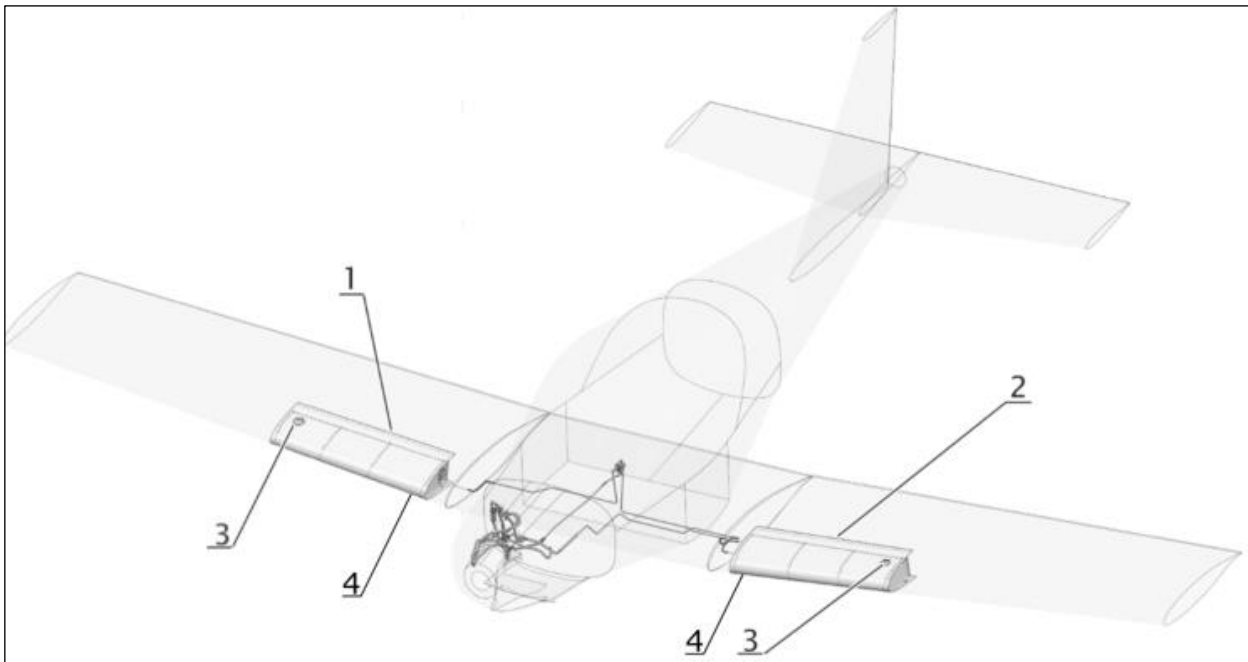
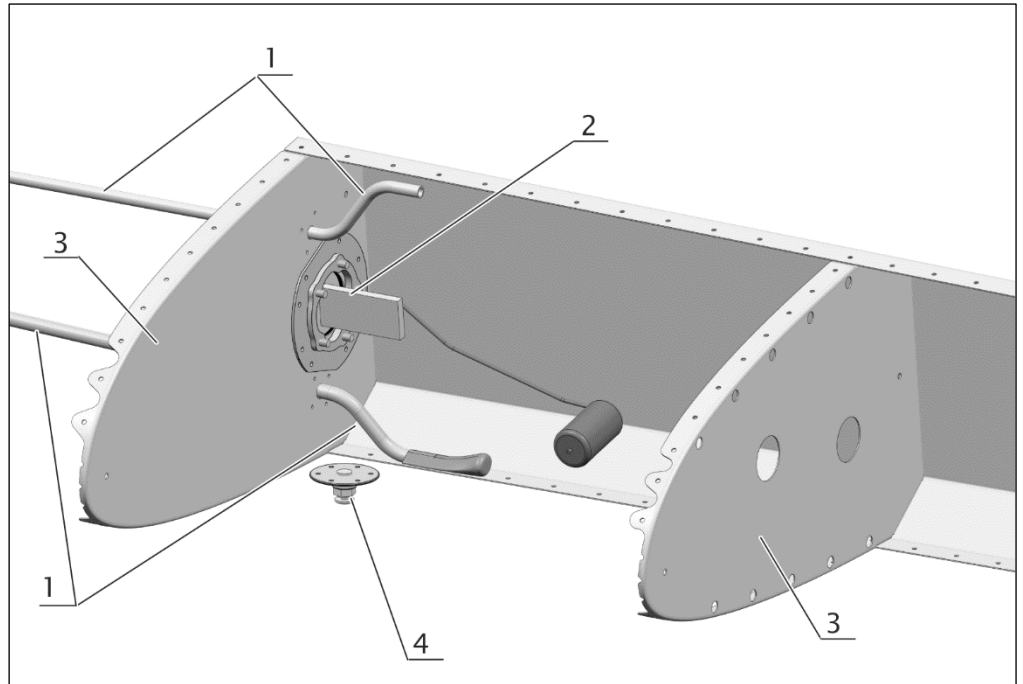

Figure 2 Storage
Figure 3 *Fuel Tank (left)*
The tanks (1 + 2, Figure 2) are located in the outer wings between ribs No.2 and 5 in front of the main spar. Each fuel tank has a filler neck with flush head filler cap (3), fuel level sender (2, Figure 3), venting tube, finger screen (1, Figure 3) and drain valve (4). Fuel is filled into the each tank through the filler neck, which is located on the top skin close to rib No.5. Fuel drain from the tank is possible through the drain valve (4) located in the rear corner of bottom skin close to the root fuel tank rib.